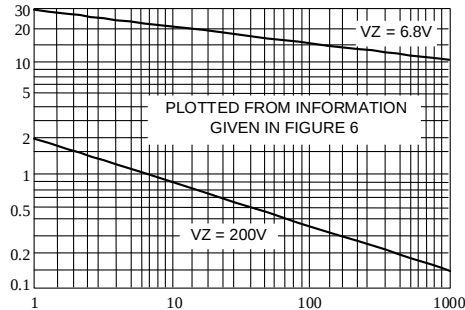

Fig. 6-PEAK SURGE CURRENT VERSUS PULSE WIDTH(SEE NOTE 3)
3. **SURGE CURRENT (I_r)** - Surge current is specified as the maximum allowable peak, non-recurrent square-wave current with a pulse width, PW, of 8.3 ms. The data given in Figure 5 may be used to find the maximum surge current for a square wave of any pulse width between 1 ms and 1000ms by plotting the applicable points on logarithmic paper. Examples of this, using the 6.8v and 200V zeners, are shown in Figure 6. Mounting contact located as specified in Note 3. ($T_A=25^\circ\text{C}$).